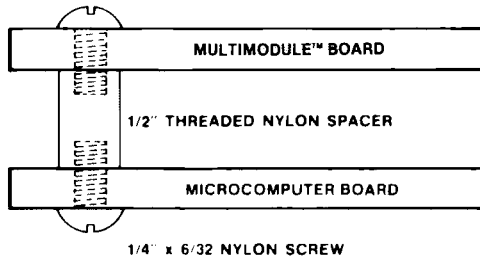

Figure 2-5. Mounting Technique
- b. Install the supplied threaded spacer on the solder side of the Multimodule Board (at the hole near connector J1). Secure the spacer by hand-tightening one of the supplied 1/4-inch screws through the component side of the iSBX 217B board (refer to Figure 2-5).
- f. Tighten down both screws as shown in Figure 2-5.